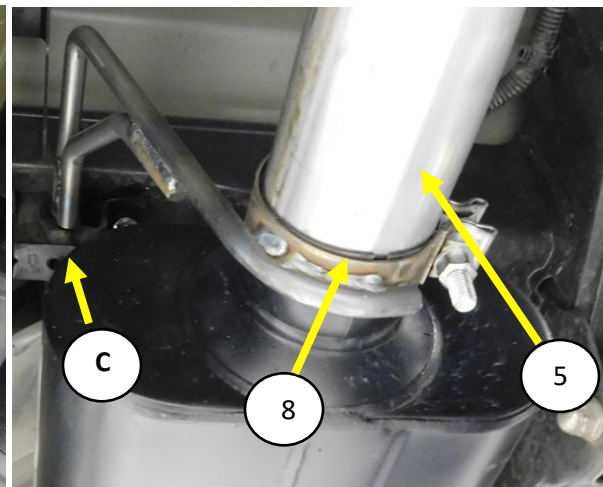

Figure.4
9. Install the Clamp Hanger **(8)** Straight rod into the rear muffler hanger isolator **(C)** above the muffler. Install the clamp side over the muffler outlet pipe. **Fig.4**
12. Install the tail pipe **(5)** into the Muffler Outlet and Tighten the clamp hanger to hold the tail pipe and allow for adjustment. **Fig.4**